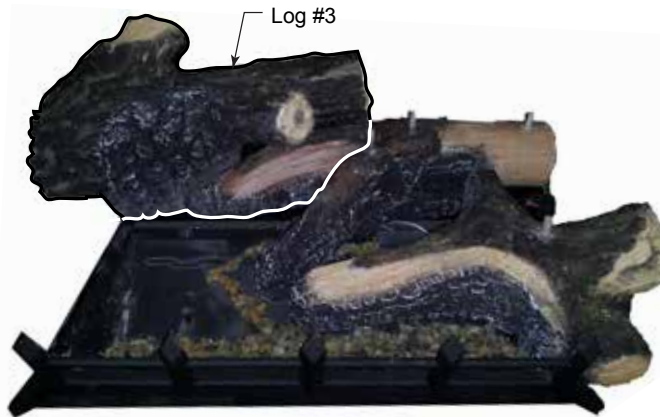

Figure 38
3. Place bottom rear left log #3 on pin on left rear of grate assembly and push towards rear as far as possible. *Figure 38*